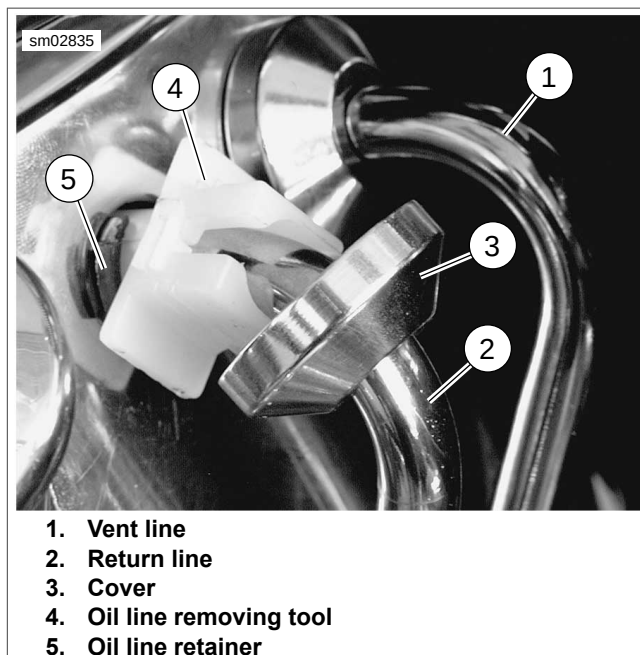

Figure 3-172. Line Cover
12. Remove two bolts with washers (19) from top bracket (18).
13. Cut lower drain hose clamp (2) from frame.
14. Cut clamp (4) from either side of oil feed hose (5).
16. See Figure 3-172. Detach vent (1) and return (2) oil lines at front of tank using OIL LINE REMOVING TOOL (Part No. HD-44455).
- a. Slide cover (3) away from oil line.
- b. Insert tool (4) inside retainer (5).
- c. Pull oil line straight out from tank leaving oil line retainer (5) inside tank.
2. Install two bolts (22) from back side of tank.
3. Install **new** clamp (4) to attach oil feed hose (5) to oil tank.
6. Install **new** clamp (2) over oil drain line and install drain line.
8. See Figure 3-172. Connect vent and return lines to tank. No tools are necessary for this step. Insert lines straight into fittings without digging or gouging O-rings. Remove any labels used to identify lines during removal process.